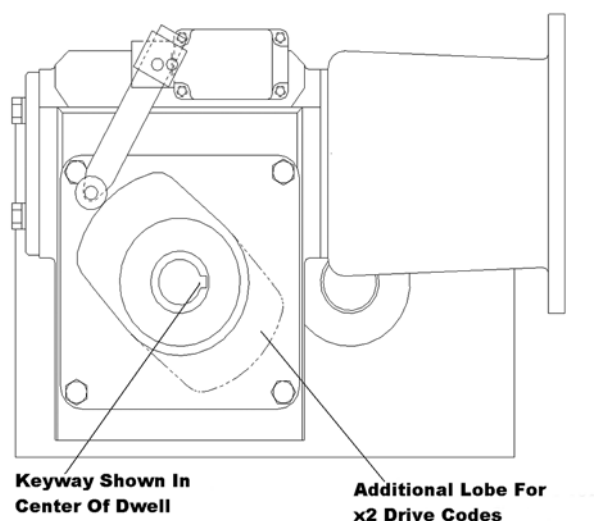

FIGURE 3
4.1.1. Rotate camshaft so cam is in center of dwell (see Figure 3).
- 4.1.10. Check the adjustment of the Switch cam if your unit has this option. To insure unit stops in dwell, see Figure 3.
- 4.1.10.1. A standard Parallel Shaft indexer is shown in Figure 3 with a Brake Cam & Limit Switch shown with the keyway in the center of the dwell period. It is necessary to phase the Brake Cam such that the input shaft of the indexer stops during the dwell period of the index cycle while leaving enough of the dwell period for the input shaft to accelerate to full speed before leaving the dwell period.